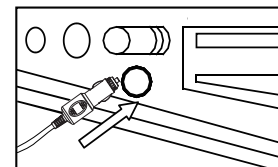

Figure 8
- The applied power source must be the 12V DC power source (as Figure 8).
- Do not block the inflation inlet (1) and Deflation outlet (2), and ensure that the inflation inlet (1) and Deflation outlet (2) shall remain smooth at all times.